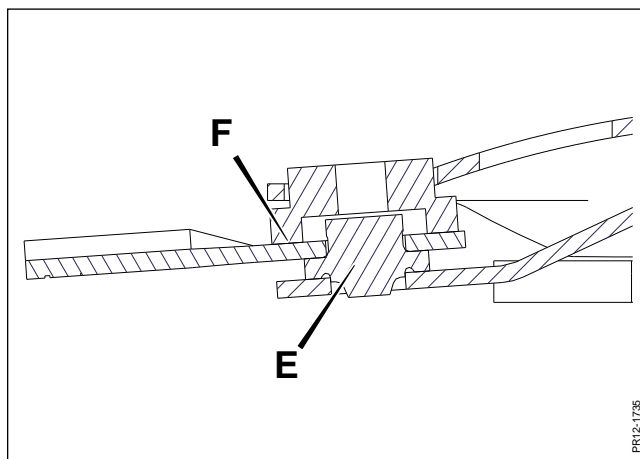

Fig. 5-14
**Fig. 5-14 IMPORTANT:** Make sure that there are no impurities between the contact faces of the blade pin and the disc **F** and that the blade pin of the blade holder **E** has correct contact with the bottom of the blade and that the blade is firmly in contact with the disc. If the blade pin is not firmly in contact with the disc, the blade holder should be replaced.